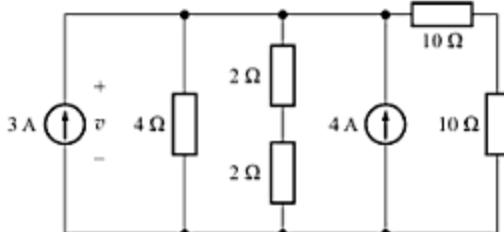

Fig. A-60
- A-12. Find the voltage *v* in the circuit given in Fig. A-60. [Ans. 12.73 V]